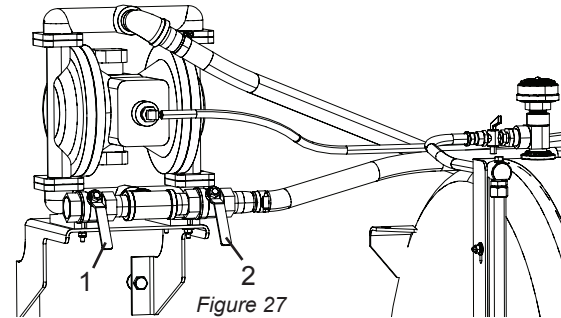

Figure 27
2. Close the purge valve (Figure 27, Item 1) at the pump inlet.
3. Open the main tank ball valve (Figure 27, Item 2).